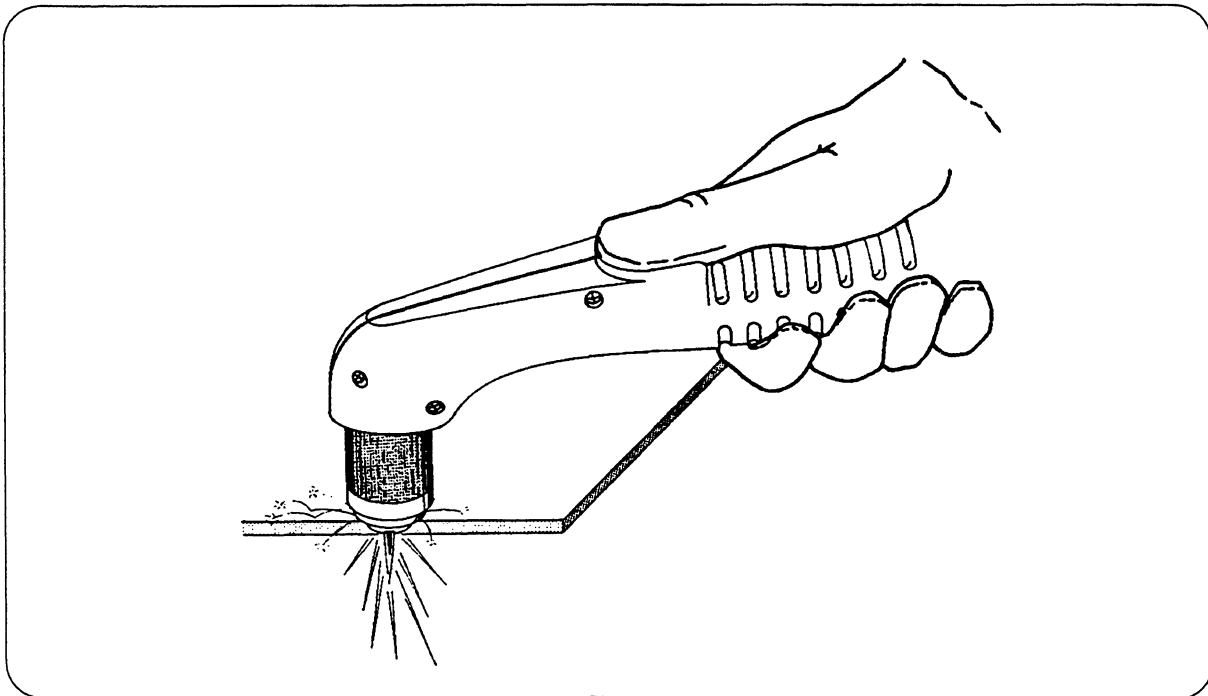

Figure 4-4 Starting a Cut
- Start cutting from the edge of the workpiece (Fig. 4-4) unless you must pierce. For tips on piercing, see *Piercing* later in this section .